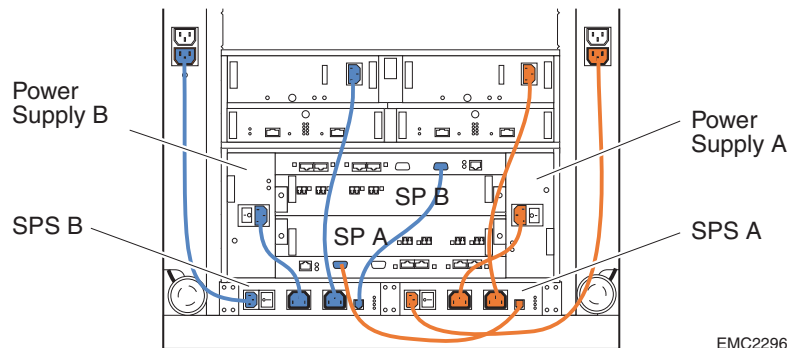
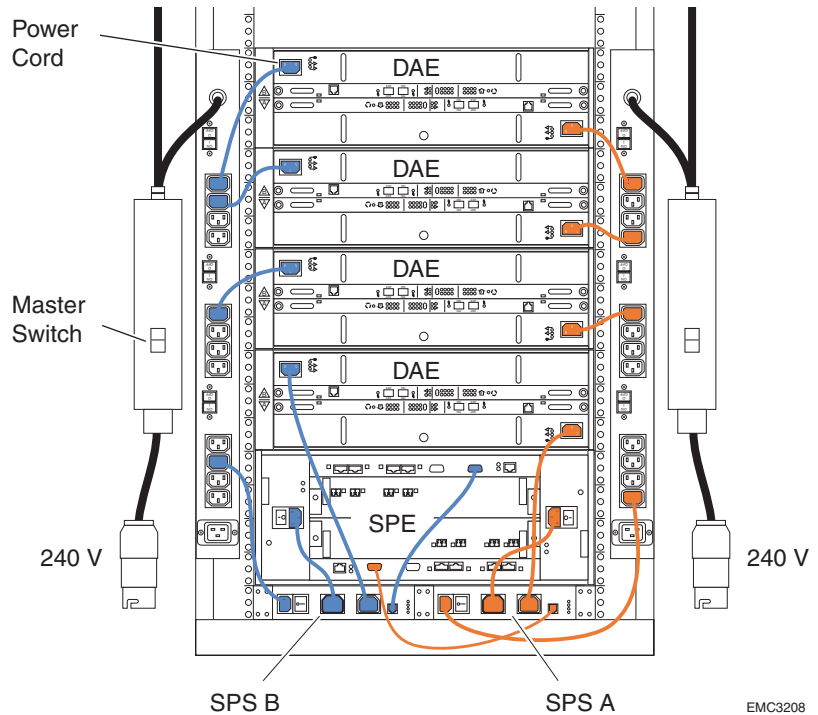

Figure 2-4 Connecting the Power Cords to the SPSs (DAE2 as EA 0, Loop 0)
Figure 2-5 Connecting Power Cords to the SPSs (DAE2P as EA 0, Loop 0)
Refer to Figure 2-4 as you connect the ac line cords to your SPS.
7. Repeat Step 1 through Step 6 on the power/cooling modules in the first DAE (EA 0). Refer to Figure 2-4 or Figure 2-5. *To support write-caching, EA 0 on loop 0 must receive power from the SPS.*
8. Connect each SPS ac inlet to the nearest ac outlet in the vertical power strip in the cabinet. As shown in Figure 2-4 and Figure 2-5, each SPS connects to a different power strip. For high availability, you must connect each power strip to a different circuit.
Figure 2-4 shows ac power cord connection for a CX700 that uses a DAE2 as the first (EA 0, loop 0) DAE in the storage system.
Figure 2-5 shows a CX700 in a 40U-C cabinet with multiple DAE2Ps. Again, power modules in the first (EA 0, loop 0) DAE in the storage system are connected to the SPSs.